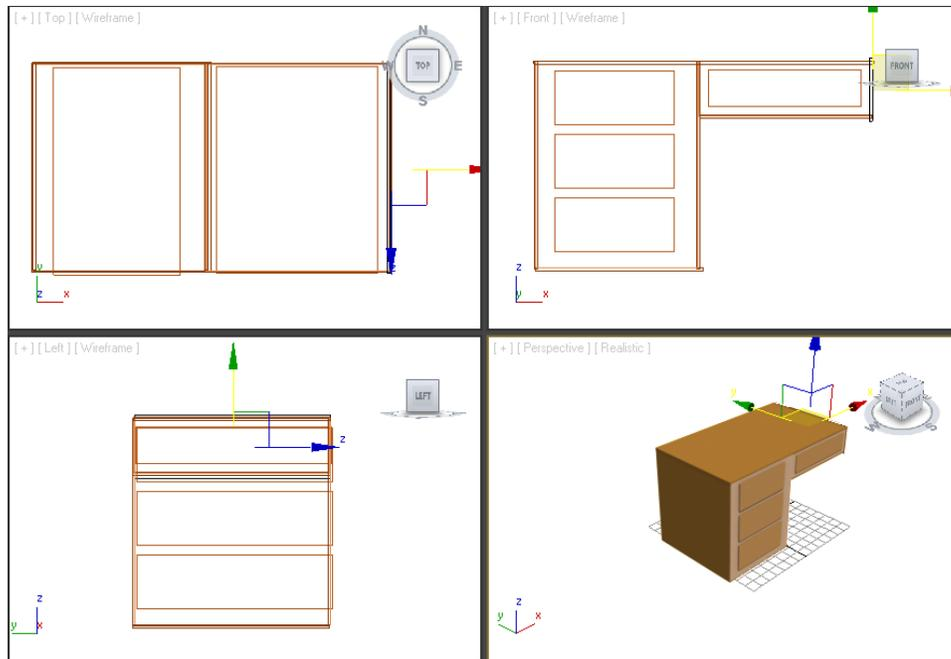

Figure 2-52 Alignment of the right face with the right side of the right box of the table
16. Align the *right face* with the right side of the *right box*, as shown in Figure 2-52.